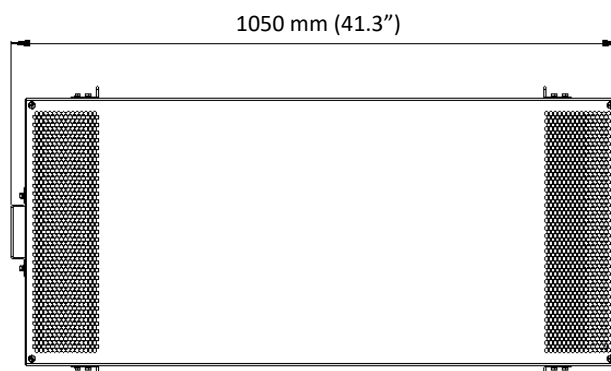

Figure 2-6 Minimum distance to pull out the unit for maintenance
- To facilitate ease of installation and maintenance, sufficient space needs to be provisioned as per **Figure 2-6** below.